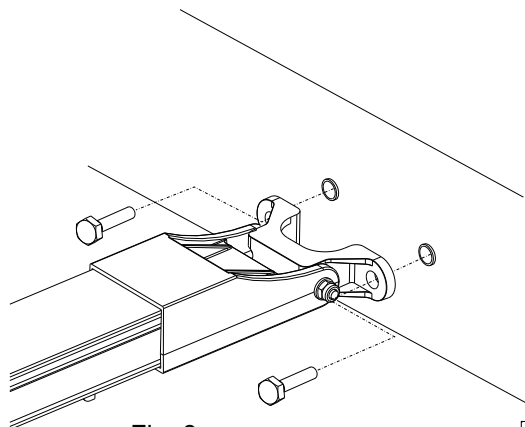

Fig. 8
- Fix the anchor bracket to the door frame or if necessary on the wall using rivets or bolts (Fig. 8);